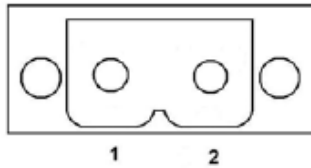

Figure 4-2: Power Terminal Block
- CN Pinouts:** See **Table 4-2** and **Figure 4-2**